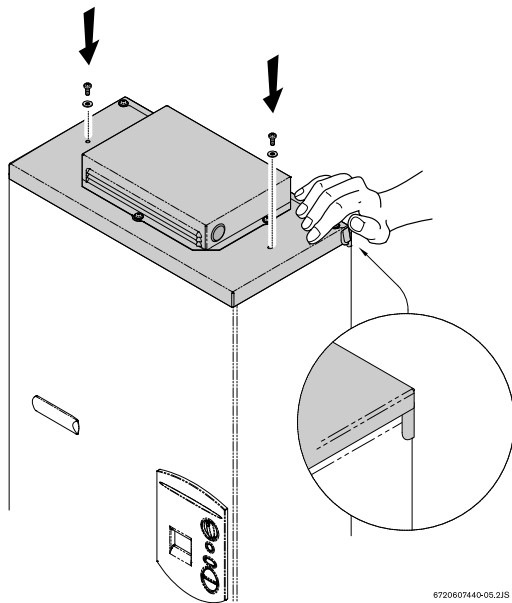

Fig. 8
- ▶ Fix the top vent cap on the top of the heater, as shown in Fig. 8). Make sure the vent cap is well fitted by taking special care that the front cover stays inside the extended corners of the vent cap, as shown in Fig. 8). The sides of the cover must be pressed with your hands to ensure it fits inside those corners. Secure it in place with its two screws.